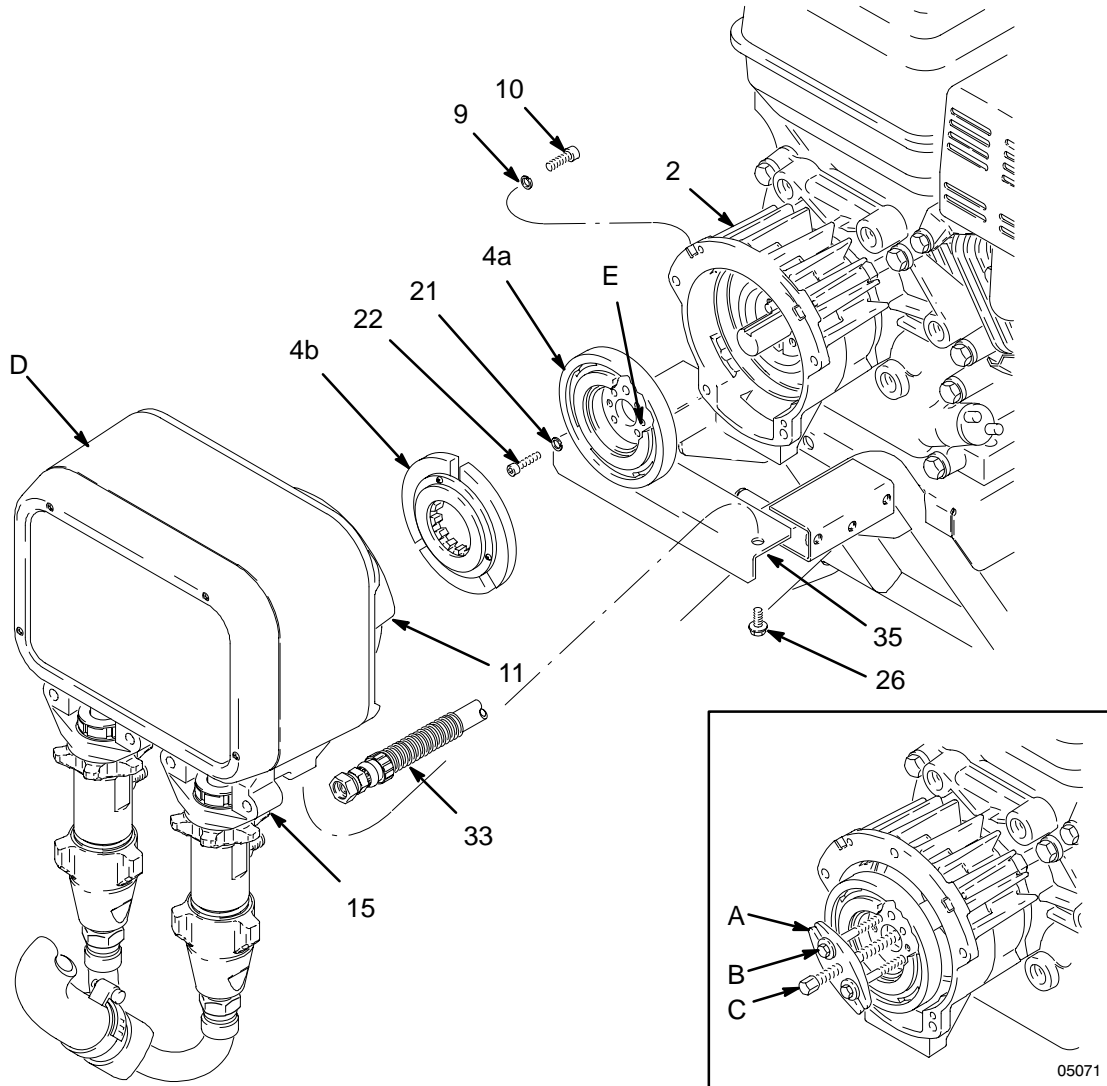

Fig. 14
NOTE: Refer to Fig. 14 for this procedure.
- a. Remove the four socket head capscrews (22) and lockwashers (21). Install two of the screws in the threaded holes (E) in the rotor. Alternately tighten the screws until the rotor comes off. See Fig. 14.
- b. You can use a standard steering wheel puller (A). However, two 1/4–28 x 3 or 4 in. long screws (B) are also needed. Replace the short screws of the steering wheel puller with the longer screws (B). Turn the screws (B) into the threaded holes (E) of the rotor (4b). Tighten the capscrew (C) of the tool until the rotor comes off. See the Detail in Fig. 14.